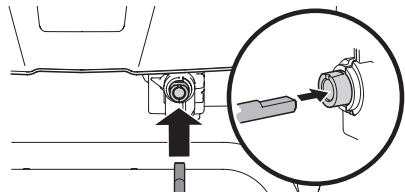

Figure 33
5. Insert other end of chute control rod into coupler below handle panel. Make sure to line up flat end of rod and flat end of coupler. You may need to rotate rod around until these two surfaces line up (Figure 33 inset).